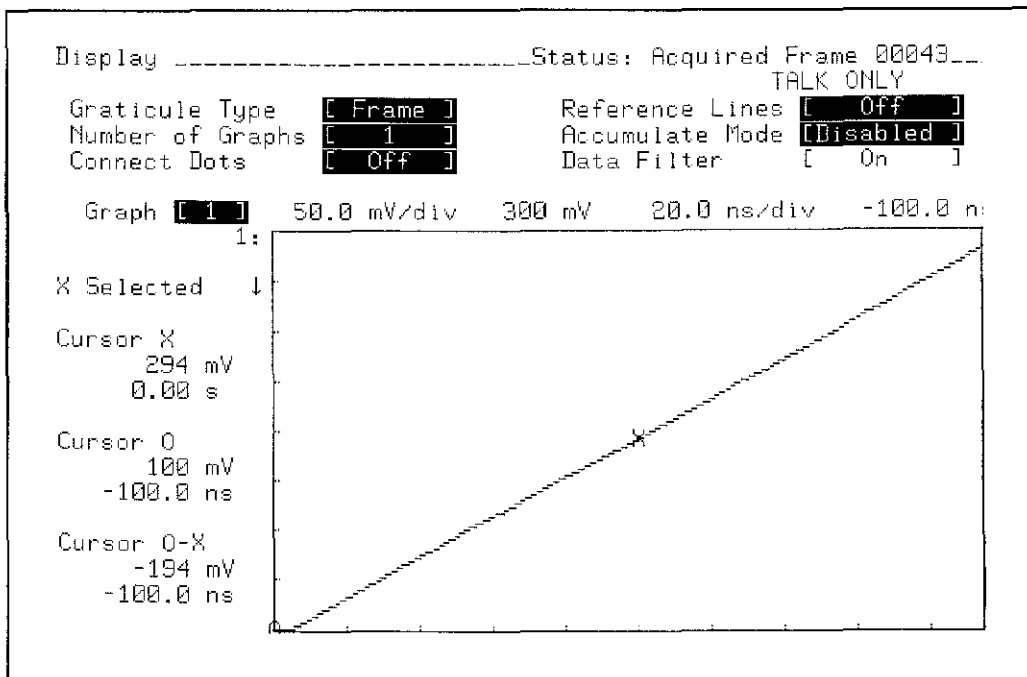

Figure 3-11. DISPLAY Waveform
3. Press DISPLAY menu key and select one graph with Channel 1 displayed. The waveform should appear similar to figure 3-11.